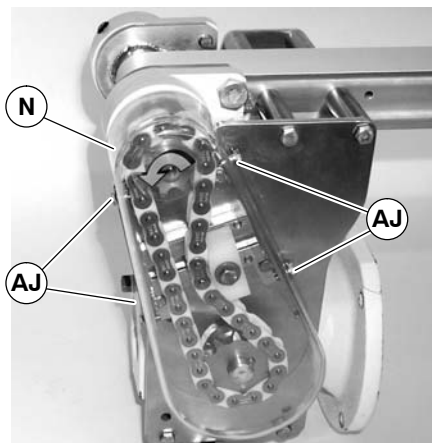

Figure 28
- Loosen four screws (AJ of Figure 28) and remove cover (N).
NOTE: Do not over-tighten screws (AJ of Figure 28).
8. Install cover (N of Figure 28) and tighten four screws (AJ) to 35 in-lb (4 Nm).